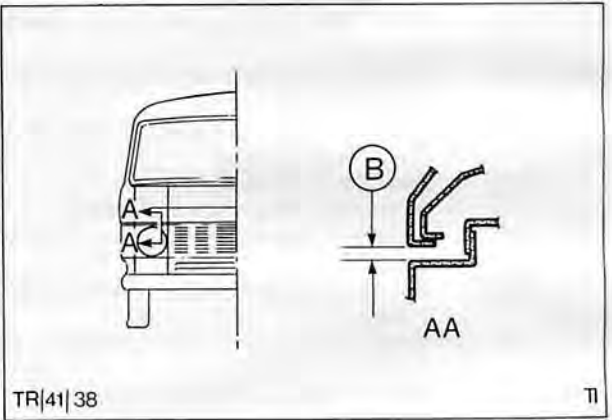

Fig. 2. Hood setting – underside of hood to crossmember clearance
5. Close hood, ensuring striker fully engages hood lock spring. Check visible clearance between underside of hood and crossmember. This should be $7,5 \pm 1,5$ mm. Fig. 2. If necessary slacken striker locknut, screw striker, in or out, to achieve this setting. Hold striker in correct position then tighten locknut.